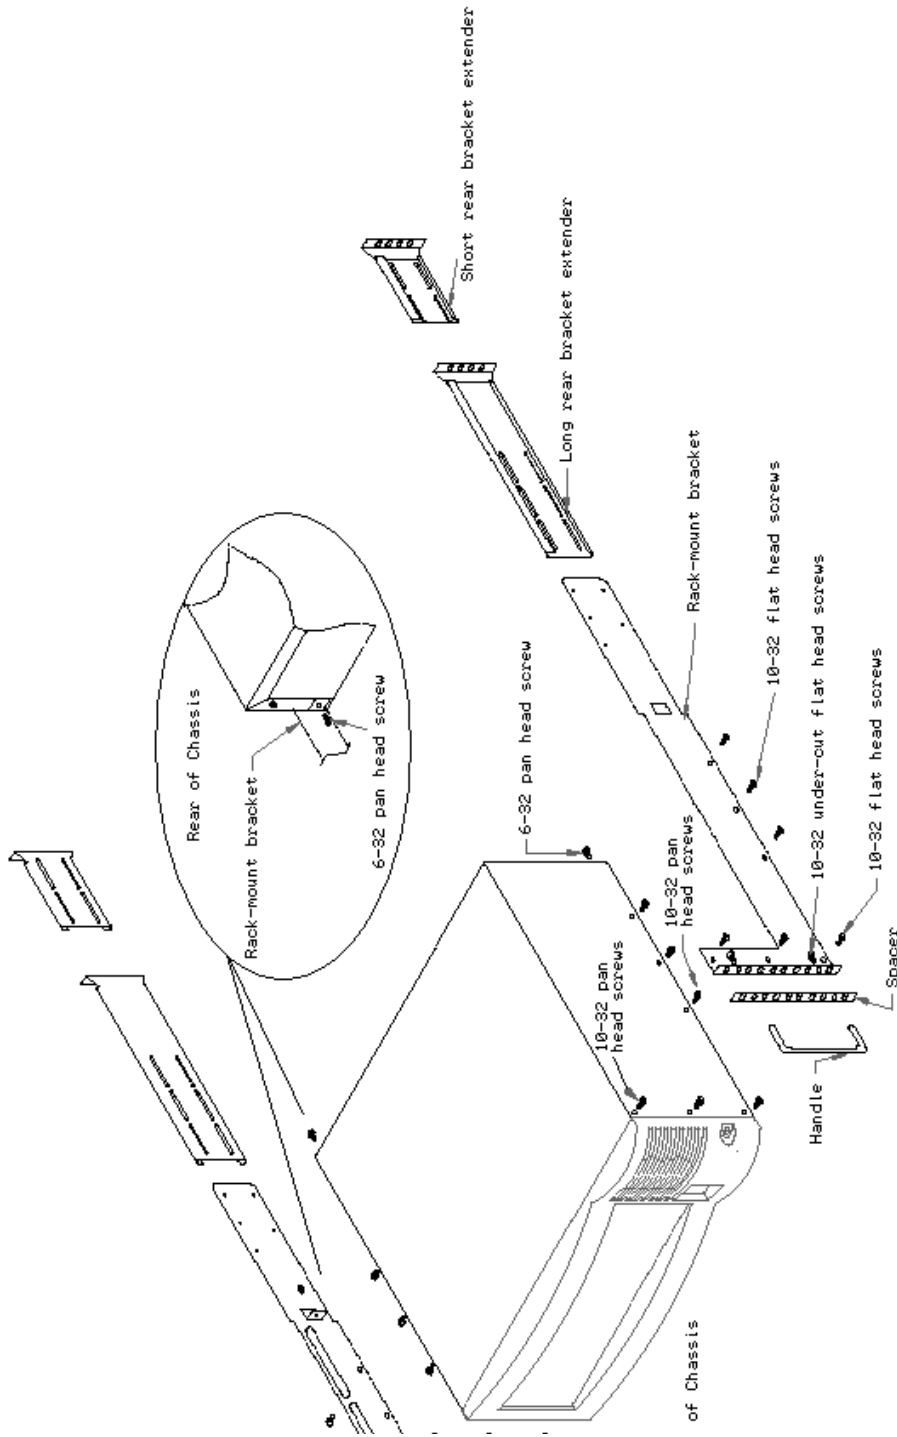

Figure 4.1. Installing Earthquake Rack-Mount Brackets
2. Remove the 6 pan-head machine screws from each side of the VSR-2 chassis and the two bottom corner pan-head machine screws from the rear of the chassis as illustrated in Figure 4.1. Be sure to set the screws in a safe place so that you may use them later if you change the mounting.
3. Using the black 10-32 flat-head screws provided, install the mounting brackets on the sides of the router as shown in Figure 4.1. Using the provided 6-32 pan-head screws, fasten the rear of the chassis to the rear tab of the mounting bracket.
4. Using the undercut 10-32 flat-head screws provided, install the handles and spacers on the front of the mounting brackets as shown in Figure 4.1.